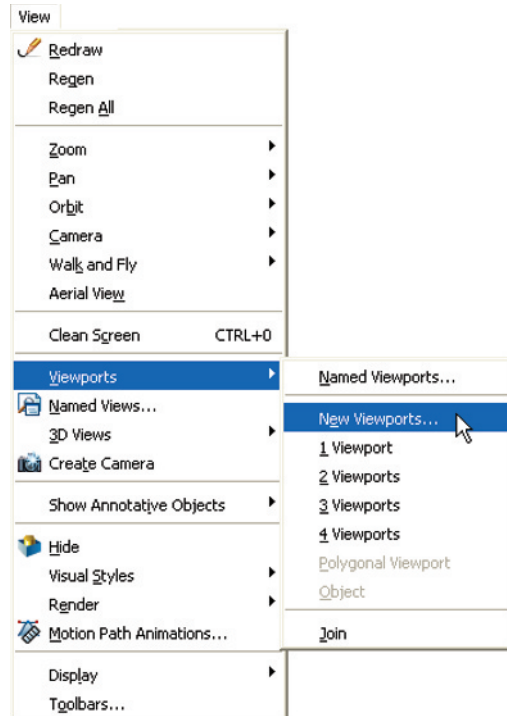
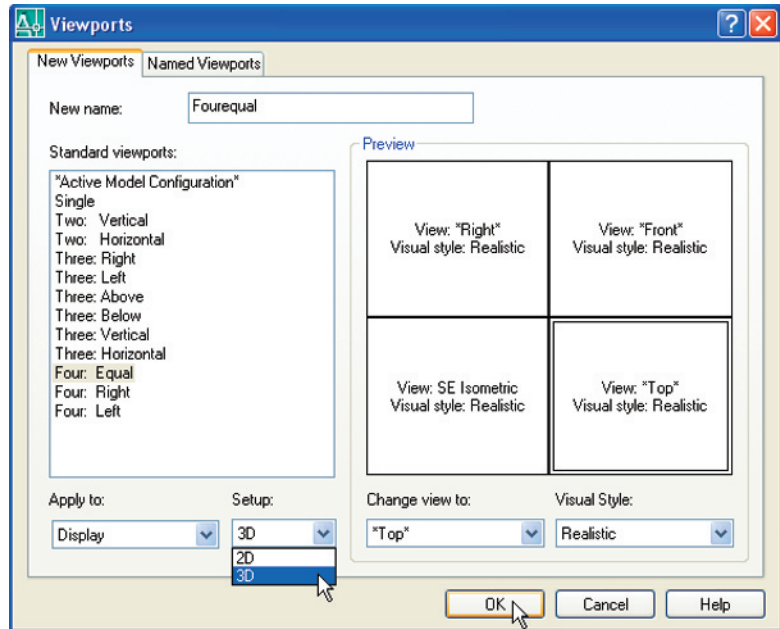

Fig. 14.1 Selecting **New Viewports...** from the **View** drop-down menu
Fig. 14.2 The **Viewports** dialog
1. Click **View** in the menu bar and from the drop-down menu which appears click **Viewports** and in the sub-menu which then appears click **New Viewports...** (Fig. 14.1). The **Viewports** dialog appears (Fig. 14.2).